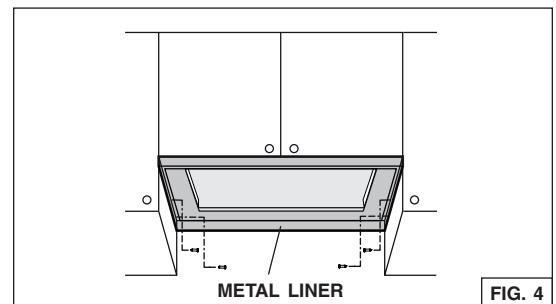

FIG. 4
3. Secure the optional liner (Fig. 4) using 4 mounting screws (included with the liner).